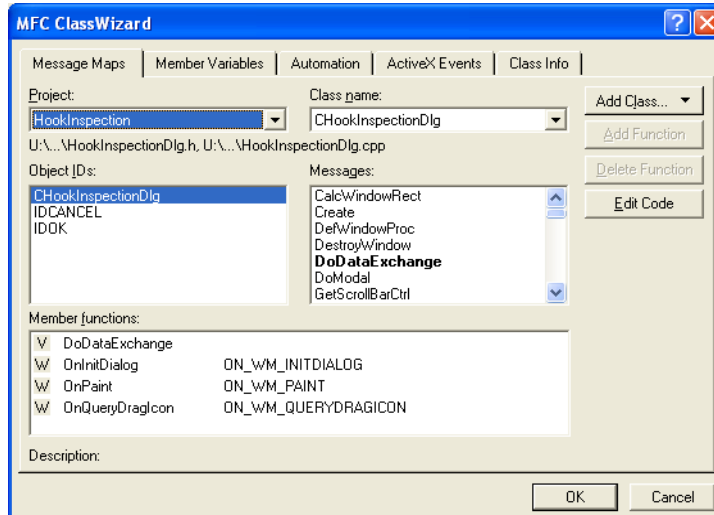

Figure 48 MFC ClassWizard Member Variables Editor
2. Click on the **Member Variables** tab and select **CHookInspectionDlg** in the **Class Name** combo box. You will see something like the dialog in Figure 48.